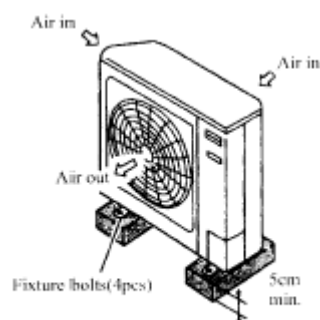

Fig. 14
- Have a base which is strong enough (eg. Cement bricks, etc) at least 15 cm above the ground, so as to reduce dampness and protect the unit from water corrosion, hence prolong its service life. (See Fig. 14).